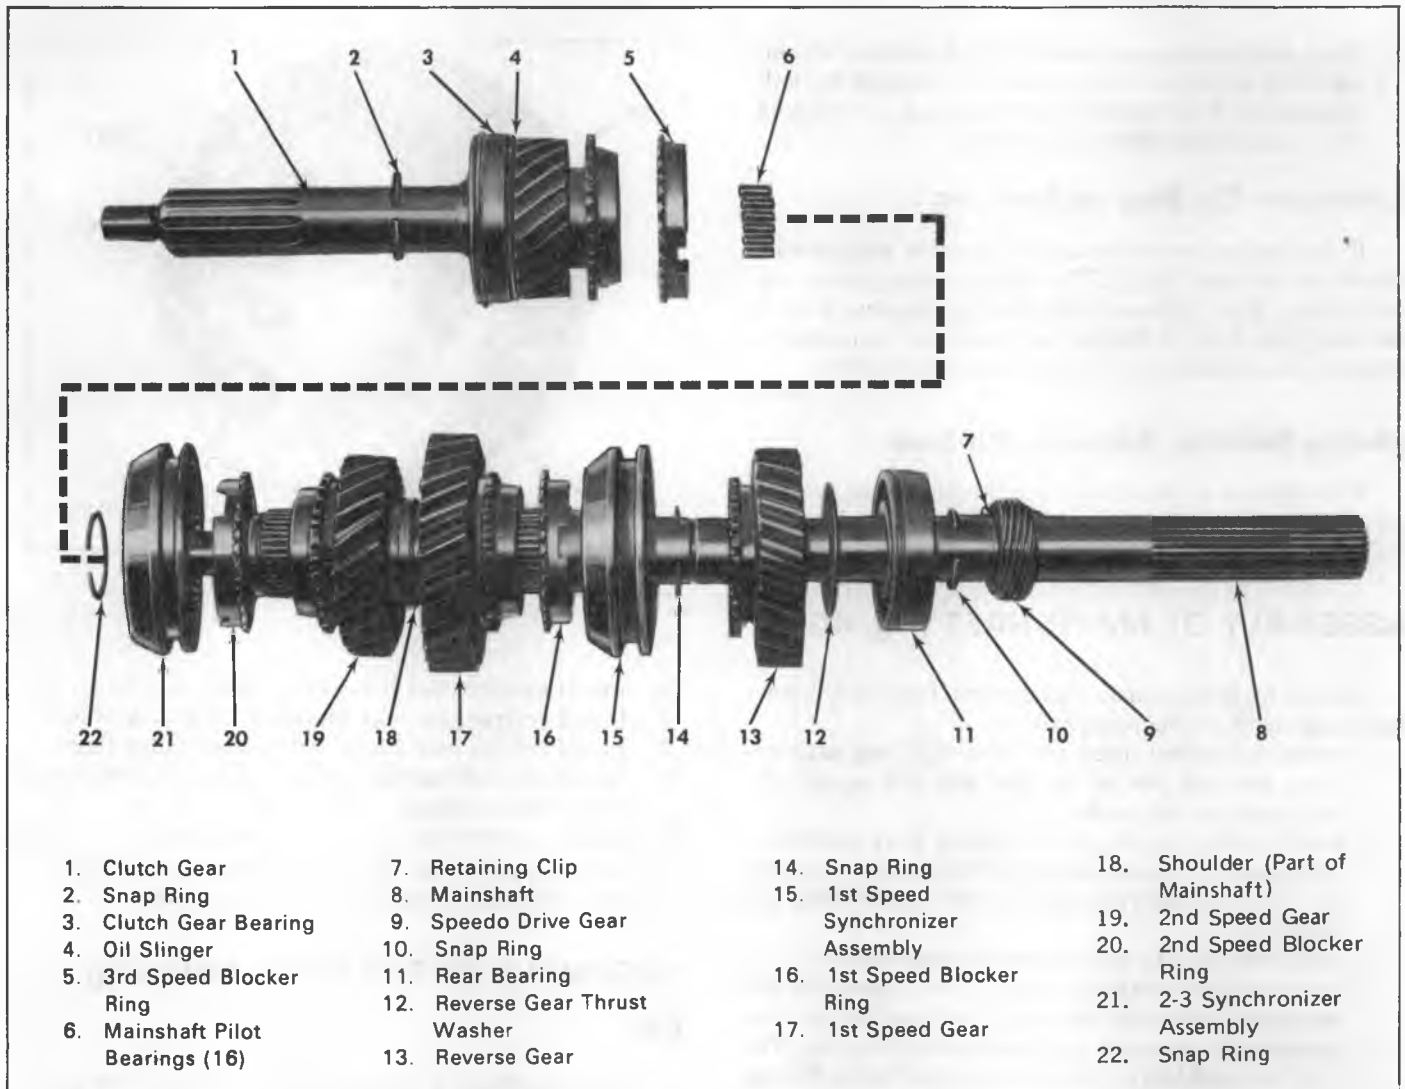

Fig. 4G—Clutch Gear and Mainshaft Assembly
## DISASSEMBLY OF MAINSHAFT (Fig. 4G)
## ASSEMBLY OF MAINSHAFT (Fig. 4G)
- Install the second and third synchronizer assembly with the fork slot downward; press it onto splines on the mainshaft until it bottoms out. Both synchronizer assemblies are identical but assembled differently. The 2nd-3rd speed hub and sleeve is assembled with the fork slot in the sleeve toward the thrust face of the hub. The 1st- reverse hub and sleeve is assembled with the fork slot in the sleeve opposite the thrust face (fig. 4G).